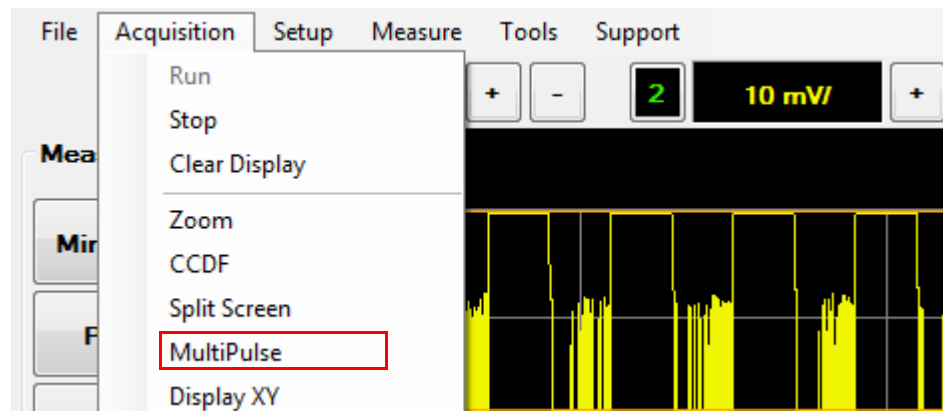

Figure 2-88 MultiPulse selection in the Acquisition menu
- 1 Select **Acquisition > MultiPulse** on the toolbar as shown in Figure 2-88.